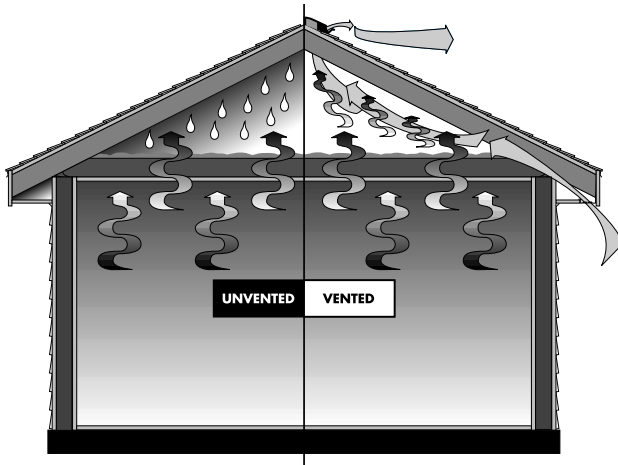

Figure 7-3: Attic ventilated by thermal effect.
**THE "THERMAL EFFECT":** Warm air rises. In the home, hot air from the living area is always trying to get into the attic and naturally work its way up to the roof ridge. If the home has ridge ventilation (which should always operate as an exhaust vent) with adequate intake vents at the soffit, the hot air will go up and out of the house. (See Figure 7-3.) Cooler air is allowed into the attic through the intake vent at the soffit in the eaves.